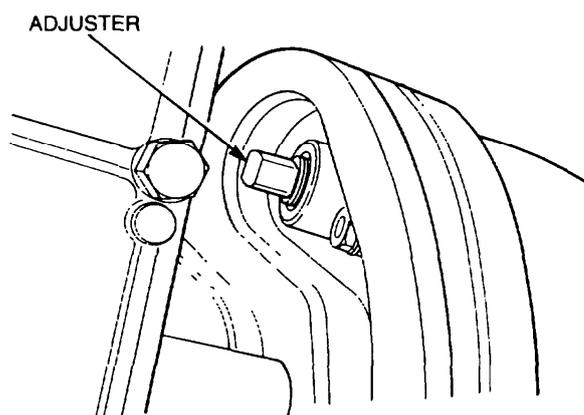

Figure 132 Parking Brake Adjustment
- c. Screw in the adjuster (Figure 132), until the brake shoe is tight up against the brake drum.